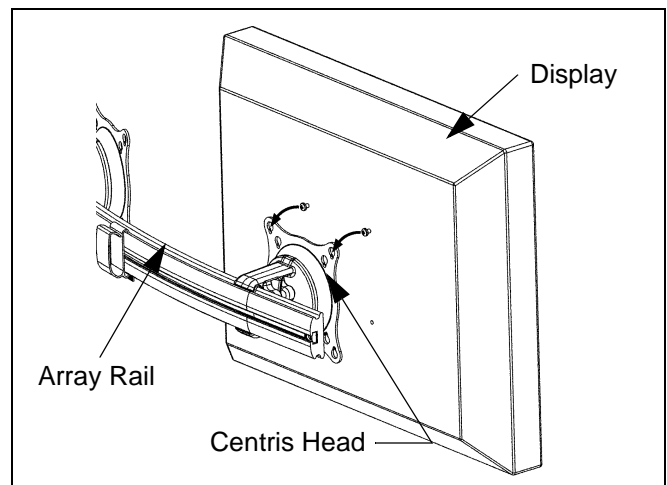

Figure 4: Hang Display
2. Hang display on Centris head. (See Figure 4)
3. Install bottom two M4 x 12mm Phillips pan head screws (30) through Centris head mounting holes and into lower mounting holes in display back.